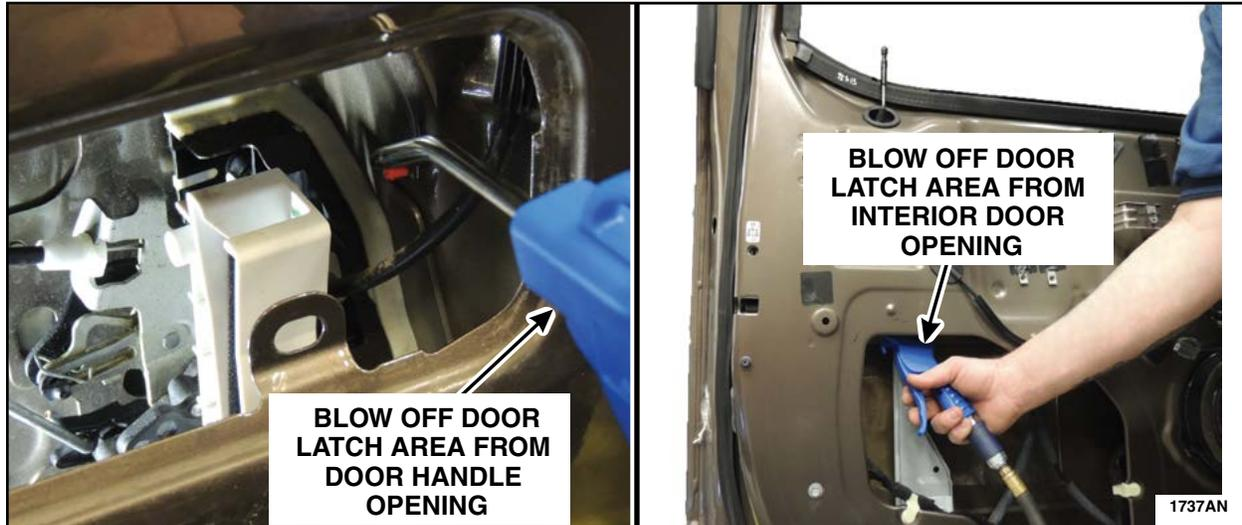

FIGURE 65
7. If not previously performed, use compressed air and blow out any debris or residual water from the door latch assembly, exterior door handle mechanism and cables for thirty seconds. Blow drying with compressed air for thirty seconds is critical to remove as much moisture as possible. See Figure 65.